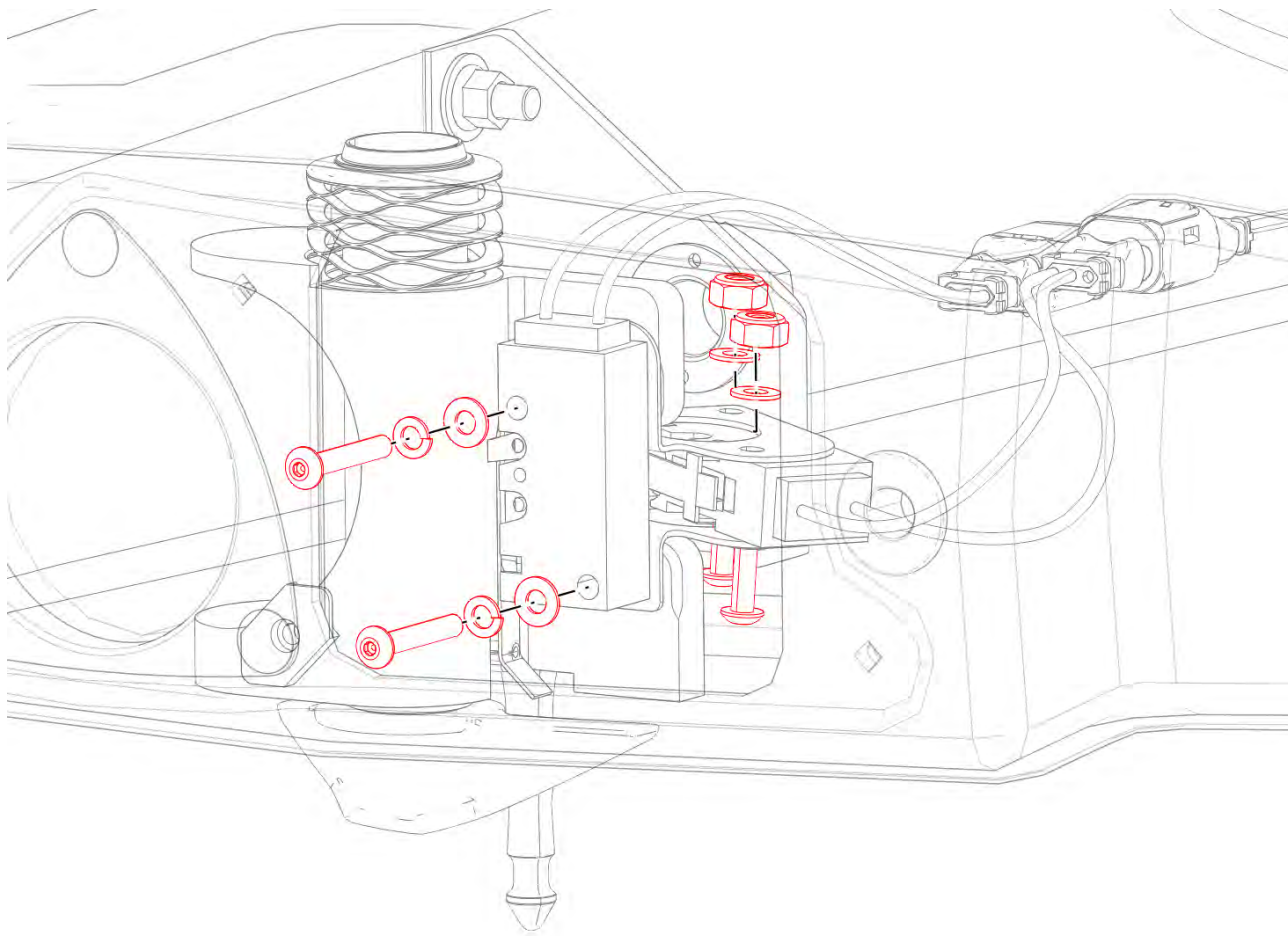

FIGURE 12-3
2. Remove the 4 screws, washers, and nuts securing limit switches. Set aside for installation. (See Figure 12-3.)